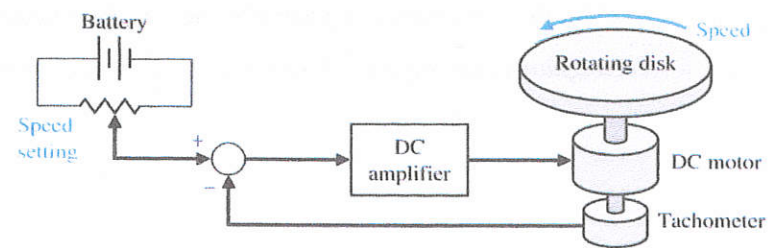

Figure 5.0/ Rajah 5.0
- (f) Draw the block diagram for the control system in Figure 5.0.